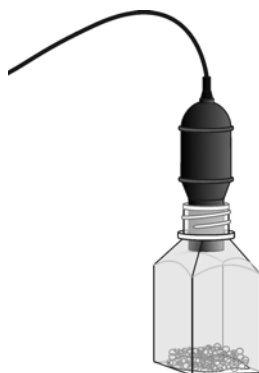

Figure 3-1. O₂ gas sensor and reaction chamber ready to collect data.
1. **Carefully and gently**, place the O₂ gas sensor into the plastic reaction chamber as shown in figure 3-1. Gently push the sensor down until it stops. The sensor is designed to seal the chamber without unnecessary force.